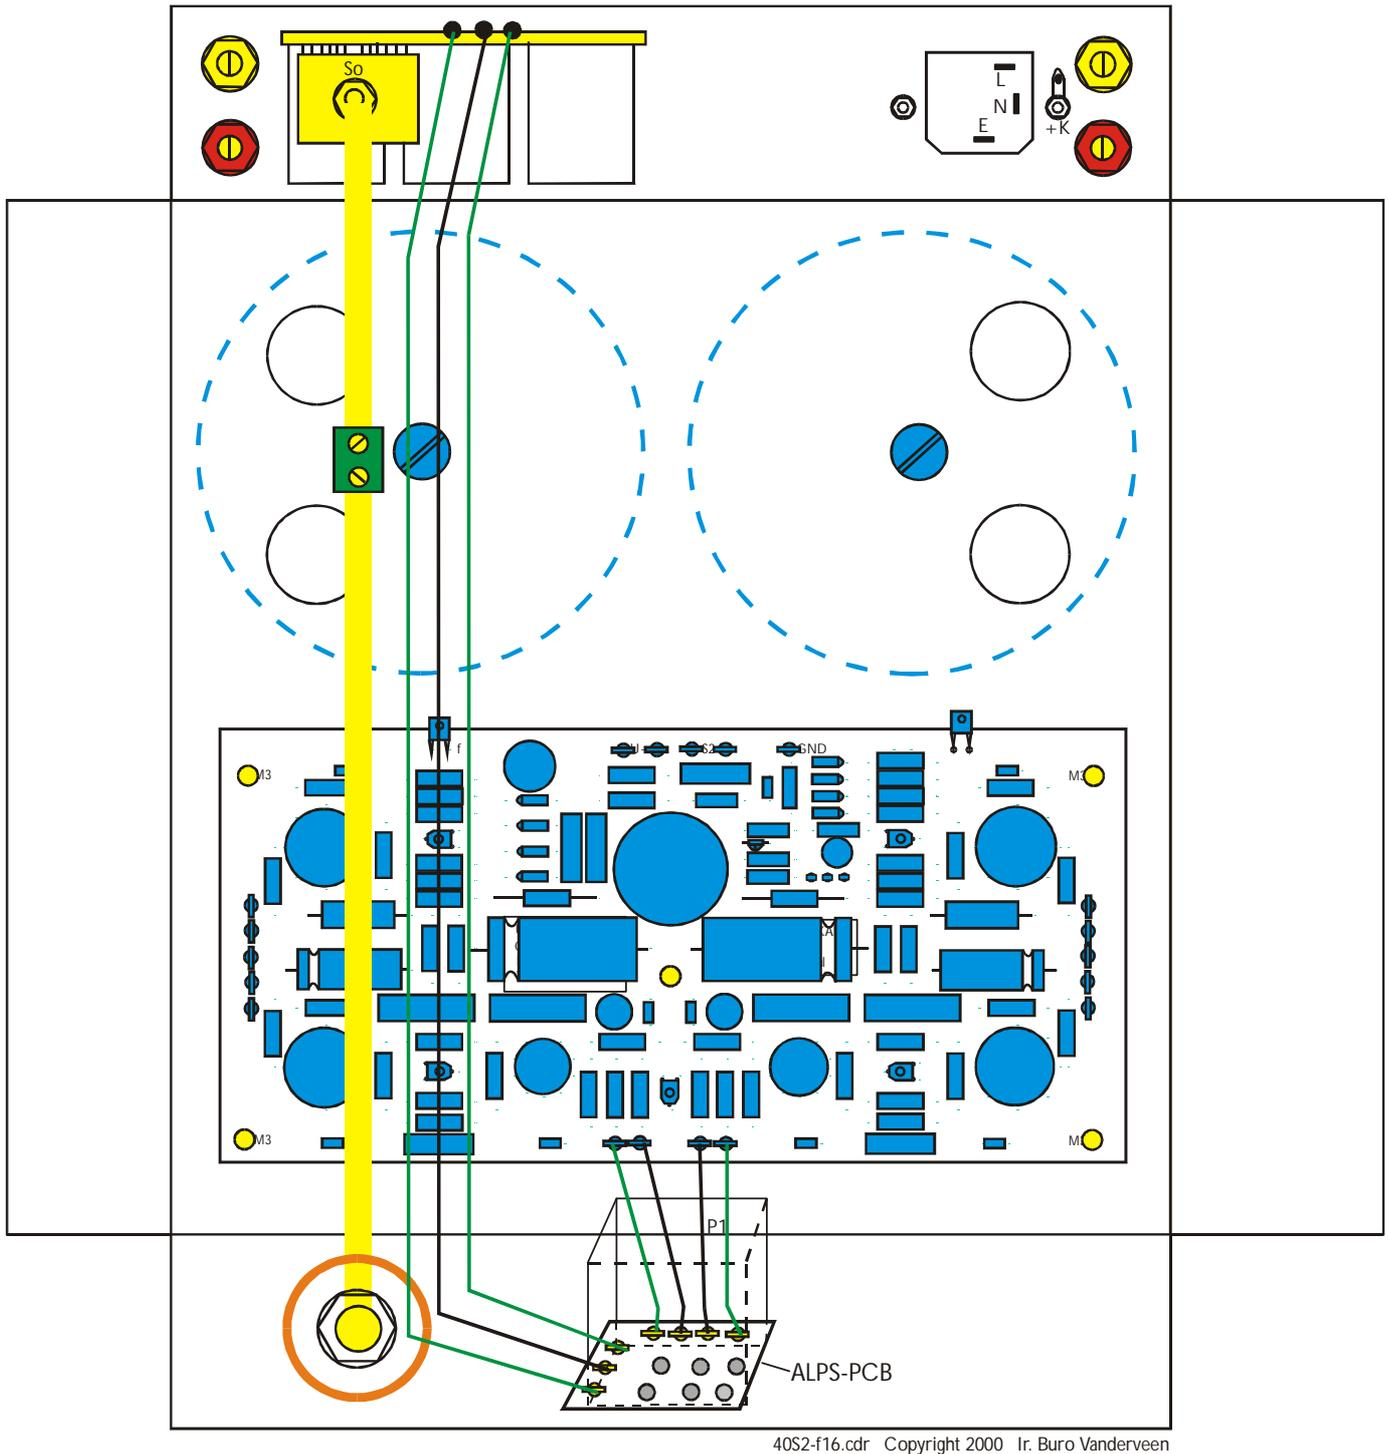

Figure 16
14. Mount the Alps-volume control to the front of the cabinet with the mounted PCB pointing to the bottom (see figure 16). Tighten the nut firmly to prevent the control from slipping.
16. Cut two lengths of green wire and two lengths of black wire, each 7cm long and strip the ends. Solder the wires to the solder terminals on the volume control, twist them together in pairs and solder them to the terminals on the PCB. Make sure not to mix up the four wires. See figure 16 for details. These wires have to be secured by using tie-wraps at both ends to ensure that there is no risk of them wandering around in case they come adrift.